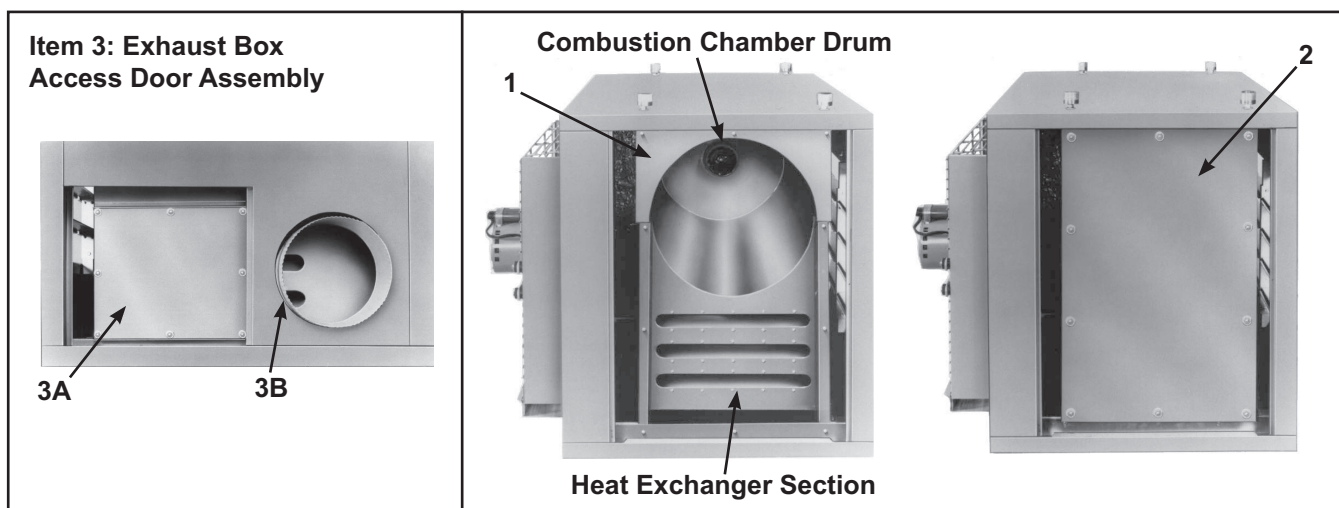

Figure 25. Heat Exchanger/Combustion Chamber and Exhaust Box Assemblies—RA and RAD Models, Unit Sizes 110, 140, and 235 (Refer to Table 16)
- Heat exchanger/combustion chamber assembly and exhaust box components for RA and RAD models—unit sizes 110, 140, and 235—are shown in Figure 25 and listed in Table 16.